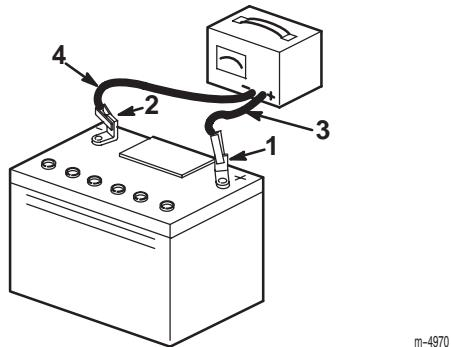

Figure 33
- When the battery is fully charged, unplug the charger from the electrical outlet, then disconnect the charger leads from the battery posts (Fig. 33).